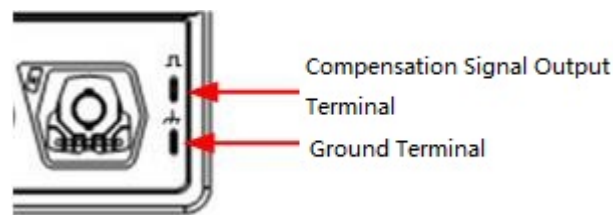

Figure 5.5 To Use the Compensation Signal
- 2 Connect the ground alligator clip of the probe to the "Ground Terminal" as shown in *Figure 5.5* below.
- 3 Use the probe to connect the input terminal of CH1 of the oscilloscope and the "Compensation Signal Output Terminal" of the probe, as shown in *Figure 5.5*.